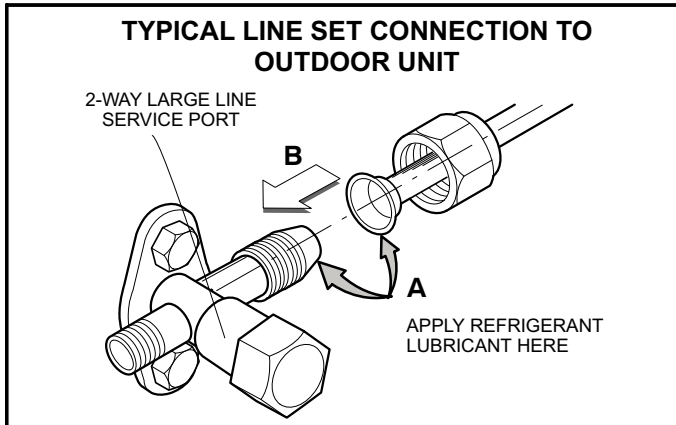

FIGURE 37
2. Apply refrigerant lubricant to the matching surfaces of the flared line set and union before connecting them together (figure 37 -- A). This will reduce refrigerant leaks.
3. Align the flared refrigerant line with valve connection, then tighten the flare nut lightly at first to obtain a smooth match (figure 37 - B).